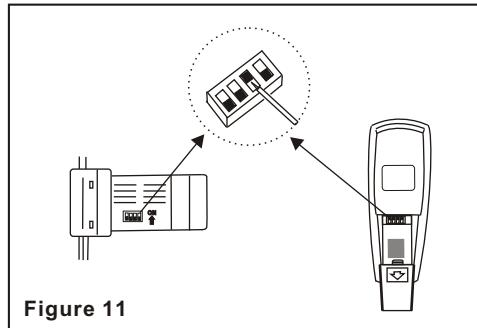

Figure 11
**NOTE:** The Hand Held Remote or Wall Control units included with your ceiling fan are equipped with 16 code combinations to prevent possible interference from or to other remote units. The frequency switches on your Receiver and Transmitter units have been preset at the factory, please re-check to make sure the switches on both units are set to the same positions. The frequency settings should be changed only in case of interference or if a second or more remote controlled ceiling fans are installed in the same structure. Any code combination will operate the ceiling fan and light as long as the Receiver and Transmitter units are set to the same codes (Fig. 11)